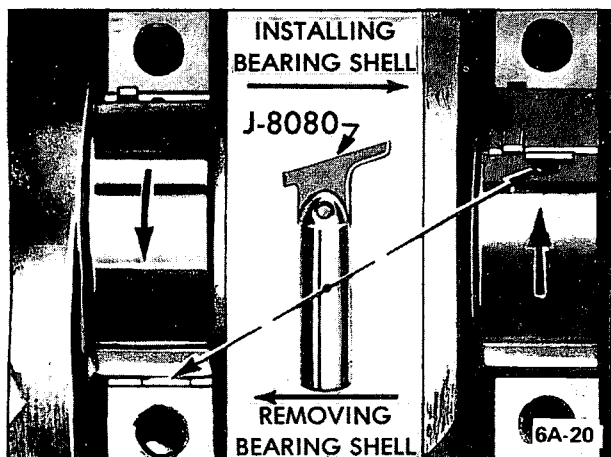

Figure 6A-16 Removal and Installation of Crankshaft Bearing (Upper Shell)
7. Remove upper bearing shell by inserting Bearing Shell Remover and Installer J-8080 in oil hole in crankshaft. Then slowly rotate crankshaft so that tool rotates the shell out of place by pushing against end without tang. See Figure 6A-16.